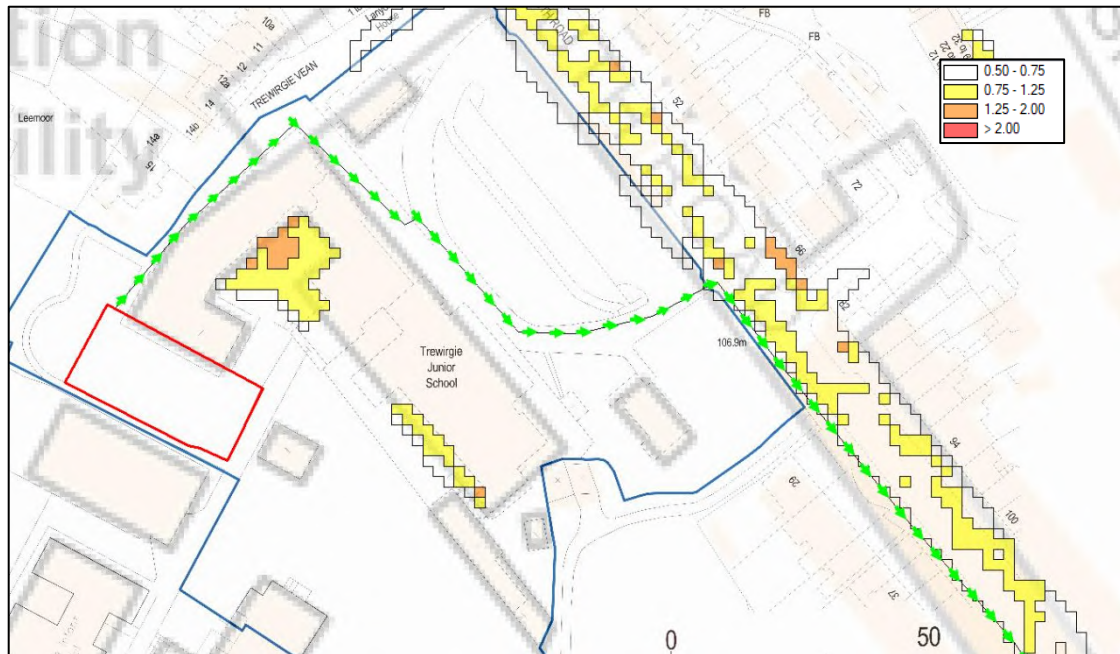

Figure 9: EA RoFSW 1:100 year flood hazard (Sources: EA, OS)
- 4.12 For reference, pluvial hazard ratings on Falmouth Road should allow safe access/ egress from the site for the 1:100 year event (Figure 9), provided evacuees remain on the higher footway rather than the road.